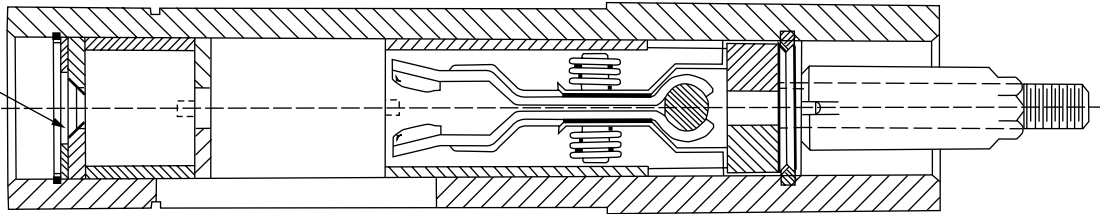

Figure 6. Contact tube.
4. Remove old fiber washers, and install new fiber washers, Item 3, with bevel as shown in Figure 6.